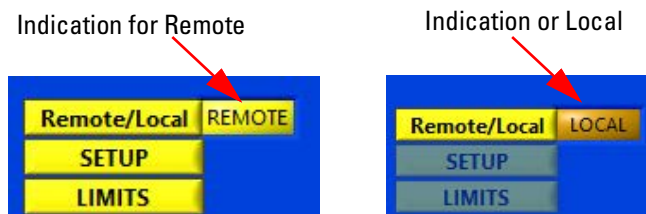
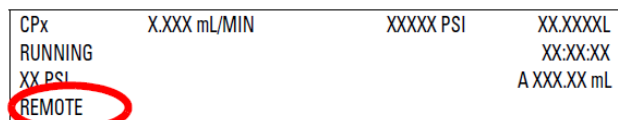

Figure 6: Remote/Local Indication
Figure 7: Controller display
- The box to the right of Remote/Local button should read either Remote or Local (See figure 6). Click on the Remote/Local button to toggle from Local to Remote for remote control. The controller screen should also show Remote on the lower left hand corner (See Figure 7).